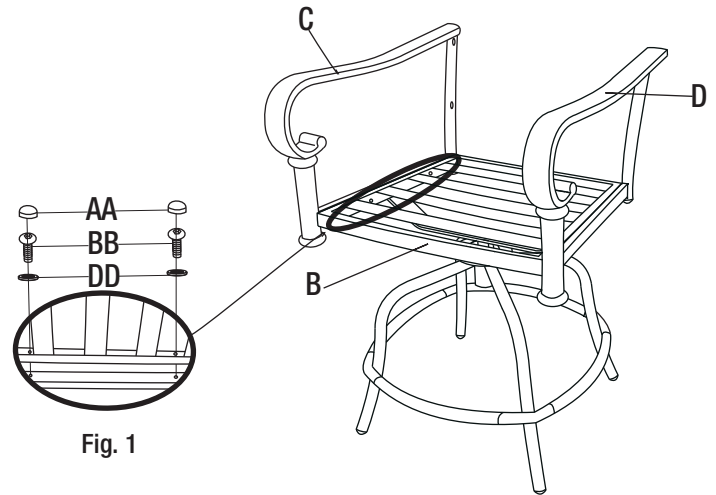

Fig. 1
- Place the chair base of part (B) on a flat, smooth surface.
- Identify the front side (curved side) and the rear side (straight side) of the seat panel of part (B).
- Attach the armrests (C) and (D) to the seat panel of part (B) with washers (DD) and bolts (BB) using hex wrench (EE). (Fig.1)
- Fully tighten all bolts (BB) and (CC) once all bolts are in place. Cover all bolts (BB) and (CC) with bolt caps (AA). (Fig. 1 and Fig. 2)